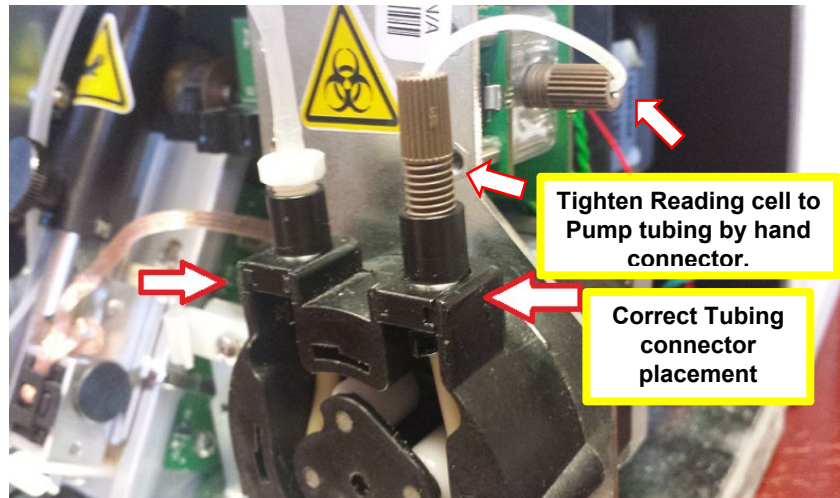

Figure 24
- 7.1. Replace the Primary pump tubing by first inserting the left side of the primary pump, then inserting the grooves of the new tubing into the slot on the pump. Slowly work the tubing in the pump (rotate rotor by hand if needed). Once the tubing is in place, insert the grooves of the new tubing into the slot on the right side of the pump. See Figure 24 for correct placement.